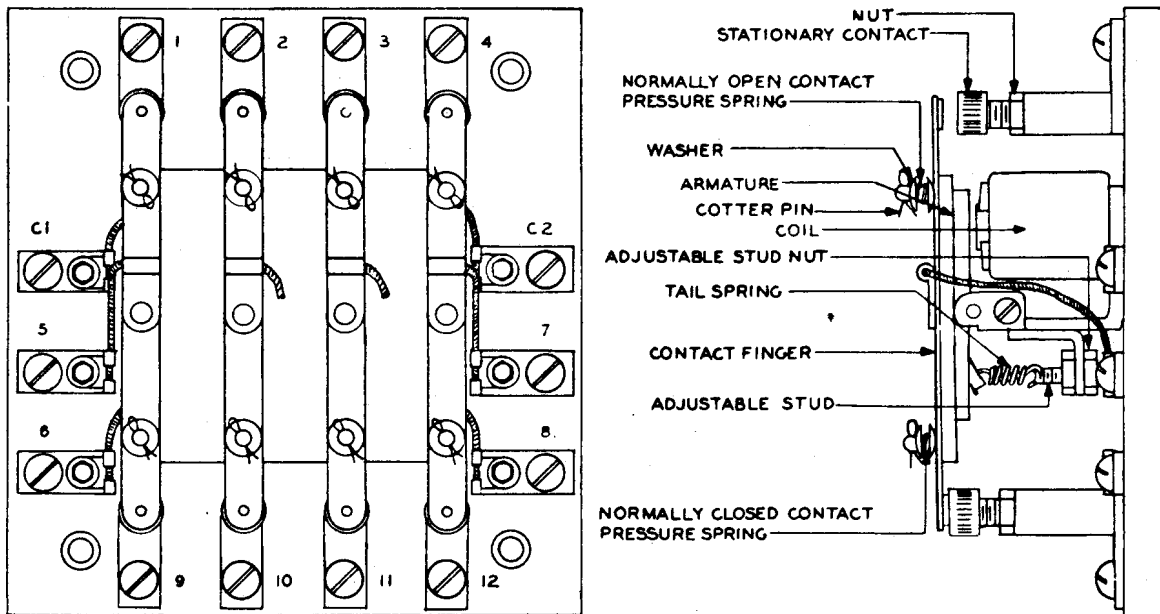

Fig. 2 - Control Relay (WARD LEONARD)
3.10 Contact Finger - Moving Contacts: (See Fig. 2.) To replace a moving contact, it is necessary to replace the complete contact finger which includes the moving contacts and the pigtail. To replace a contact finger, remove the cotter pins using the pliers, lift off the washers and the contact pressure springs, disconnect the pigtail from the terminal, and remove the contact finger complete with the pigtail. Substitute the new contact finger and reassemble in the reverse order.
3.11 Tail Spring: (See Fig. 2.) To replace the tail spring, unscrew the adjustable stud nut from the adjustable stud. This will release the adjustable stud. Unhook the tail spring at both ends, using the pliers. Substitute the new tail spring and reassemble in the reverse order.
3.12 Stationary Contact: (See Fig. 2.) To replace a stationary contact, loosen the nut with the No. 417A wrench and unscrew the stationary contact. Substitute new part.
3.13 Coils: (See Fig. 2.) Mark and disconnect the coil leads from the terminals. Remove the bottom tail spring adjustable stud nuts. Disconnect all pigtail leads from the terminals. Remove the armature pivot pins. Armature and contact finger assembly can now be removed from the relay. Remove the cotter pins and core washers from the cores. Slip coils out. Replace the new coil (or coils) and reassemble in the reverse order.
3.14 Armature: (See Fig. 2.) To replace the armature remove all contact fingers as outlined in 3.10 except it may not be necessary to remove the pigtails from the terminals. Release the tail spring at the end nearest the armature as outlined in 3.11. Remove or release the armature pin or screw. Substitute the new armature and reassemble in the reverse order.